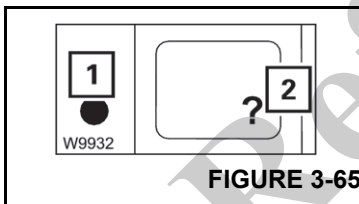

FIGURE 3-65
To determine what the error is, you must open the Error submenu by pressing the ? button (2) (Figure 3-65) once. The button is only active when the lamp (1) flashes or lights up.